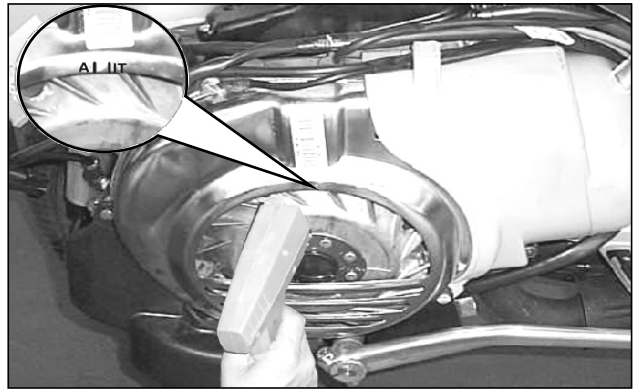

Fig.12 - Checking by Stroboscope
- (d) Start the scooter and focus the light of stroboscope on the timing mark of fan cover (fig. 12).